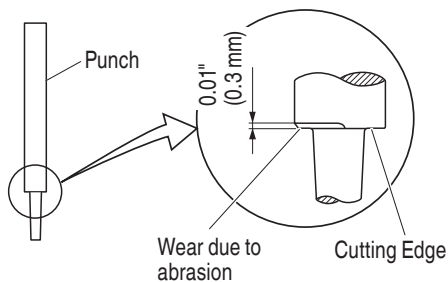

Fig. 10
When the machine is used according to the service life indicated in the above table, the punch will have abrasions as shown in the enlarged diagram of the worn punch tip in Fig. 10. This is when the punch and die should be replaced.
2. Punch and die replacement (see Fig. 10)